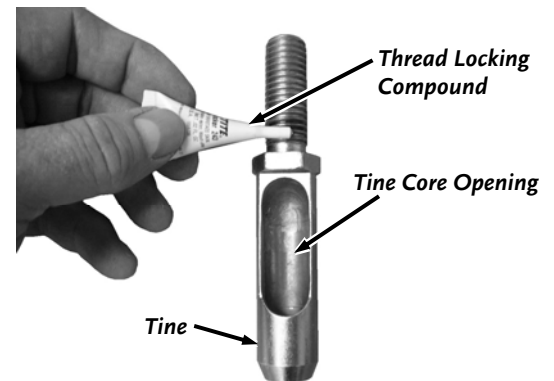

Figure 28
7. Add some Thread Locking Compound to the first few lower threads of the Tine as shown and screw the Jam Nut all the way onto the threads as close to the Tine Hex as possible by hand (**Figure 28**).